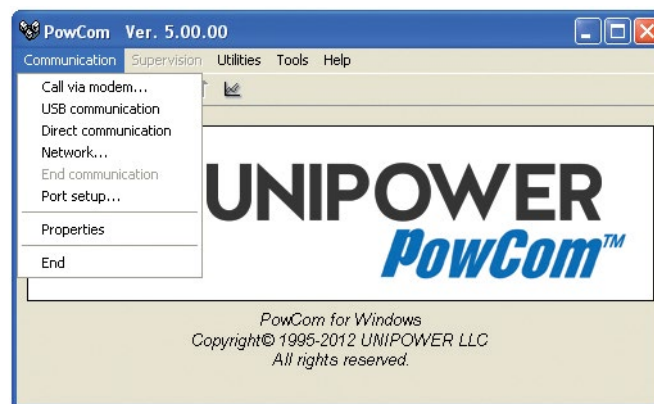

Figure 6.2 - Communication
4. Choose Communication from the PowCom™ software menu, and select USB Communication, see Figure 6.2. If present, the controller will be connected automatically through the USB interface.